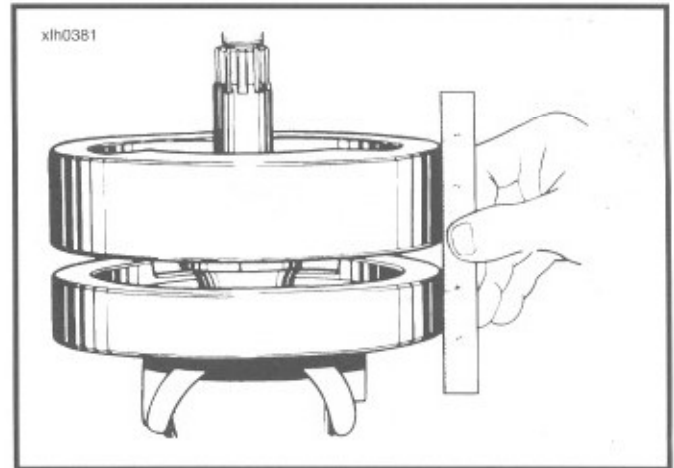

Figure 3-92. Squaring Flywheel Faces
8. See Figure 3-92. Hold steel straightedge along outer face of wheel rims at 90° from crank pin as shown. Tap outer rim of top wheel until wheels are concentric. Tighten nut, recheck with straightedge at frequent intervals.